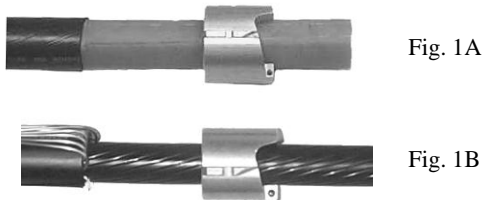

Fig. 1
Step 1. (Fig 1) Check the bushing by sliding it over polyethylene insulation (Fig 1A) or semi-con over EPR insulation (Fig. 1B). The bushing should fit snugly and still rotate easily on the cable. *We recommend the use of lubricant be used on the semi-con over EPR cable.*